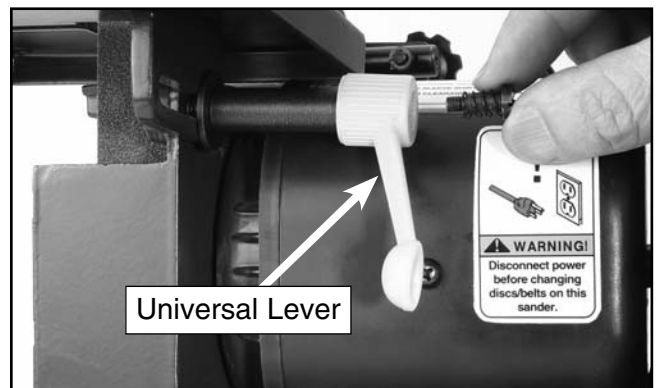

Figure 10. Lever, spring, and screw installation.
5. Install the universal lever so it is meshed with the splined lever shaft, and insert the spring and screw as shown in **Figure 10**.